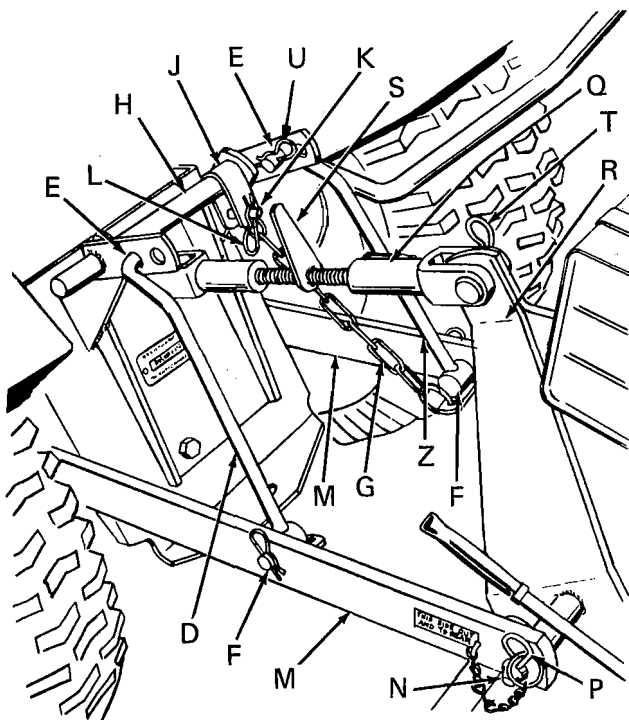

FIG. 1A
- 1 - Lift link and stop—L.H. (D, Figure 1A)
- 1 - Lift link and chain—R.H. (Z, Figure 1A)
- 5 - Retainer springs (1 on each end of D, and one at L, Figure 1A)
- 1 - Clevis (J, Figure 1A)
- 1 - Rivet (K, Figure 1A)
3. Refer to Figure 1A. Assemble the floating-type lift links (D) & (Z) (included in bag of parts to inner holes (E) of each lever, as shown. Secure with retainer springs (U). NOTE: Offset end of links must be to top and positioned in the lower two holes, as shown.
4. Assemble lift-link swivel (F) to lower lift arms as shown and secure with retainer springs. Refer to Figure 1A.
5. With lift lever in forward (raised) position, attach limit chain (G) to lift-lever cross-shaft (H) with clevis (J). Secure with rivet (K) and retainer spring (L). Refer to Figure 1A
6. Back tractor up to Spader and attach rear of bottom links (M) to pin (N) on Spader and secure with retainer spring (P). Refer to Figure 1A.
7. Assemble clevis (Q) to hitch bar (R).